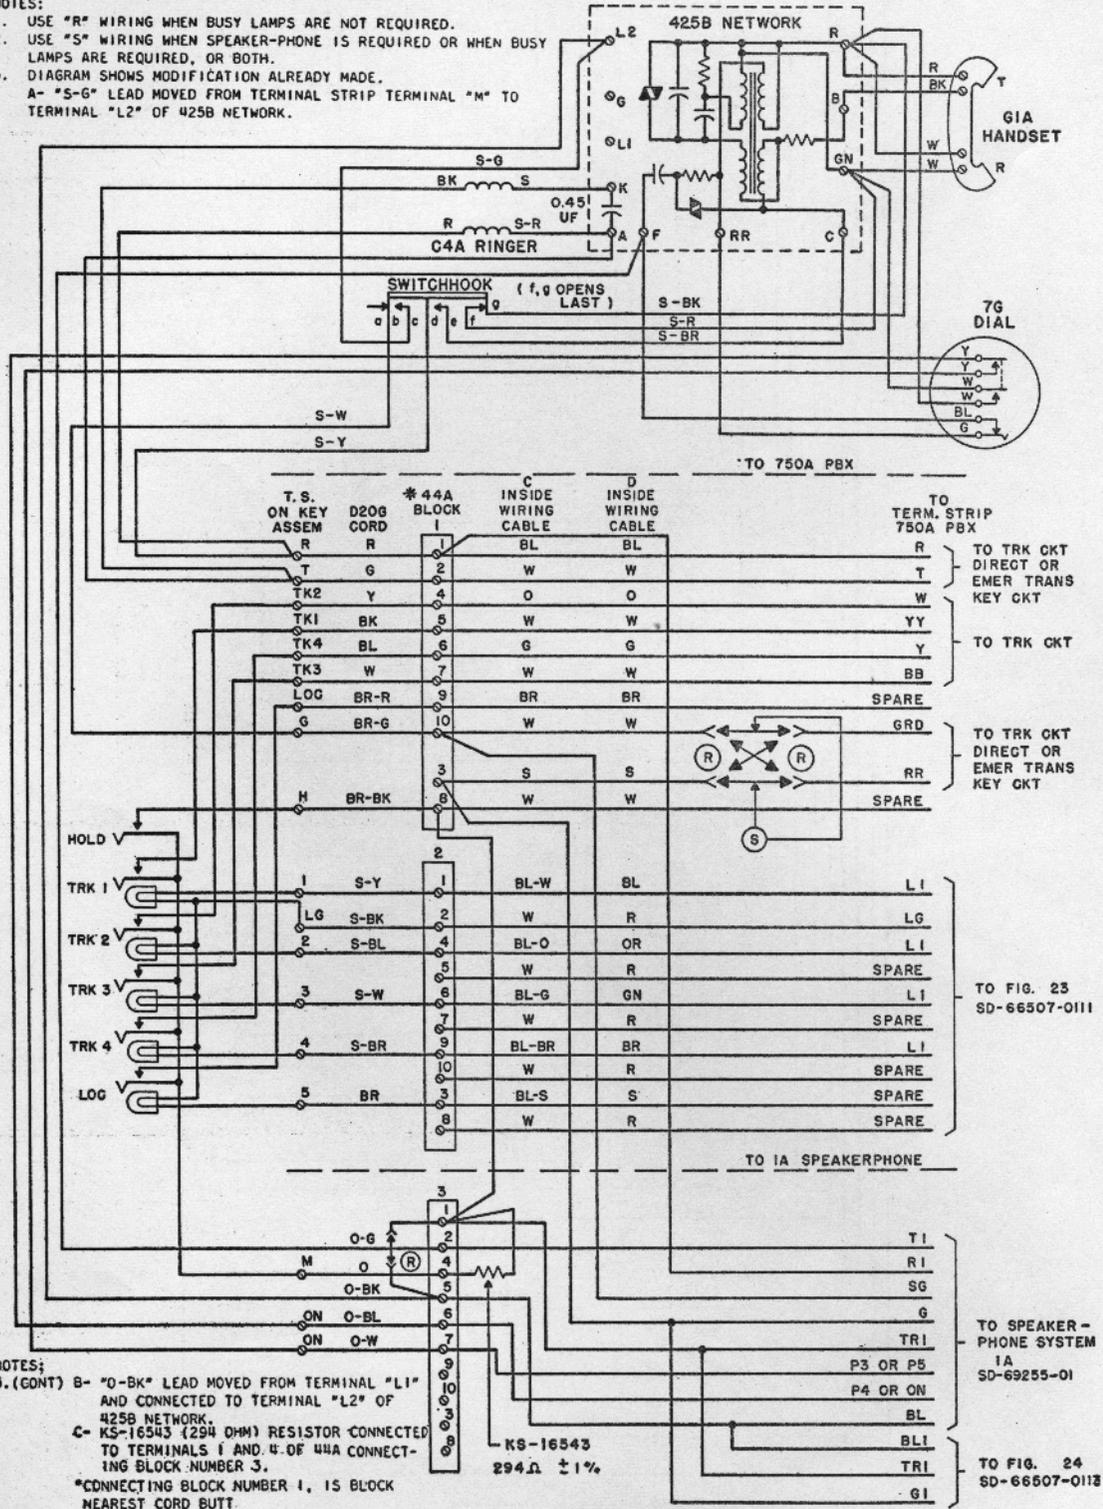

Fig. 7 - 566MB Telephone Set (Illuminated) Connection Diagram
1.03 The connection diagram (Fig. 7) has been provided to show how a 566MB telephone set can be modified to work with a 750A dial PBX.
2.03 The 566MB telephone set used with the 750A dial PBX (Fig. 7) must be modified in the field by moving the:
2.04 A KS-16543 resistor (294 ohm) must be connected as shown in Fig. 7 to ensure operation of the marginal relay in the holding circuit of the 750A dial PBX.